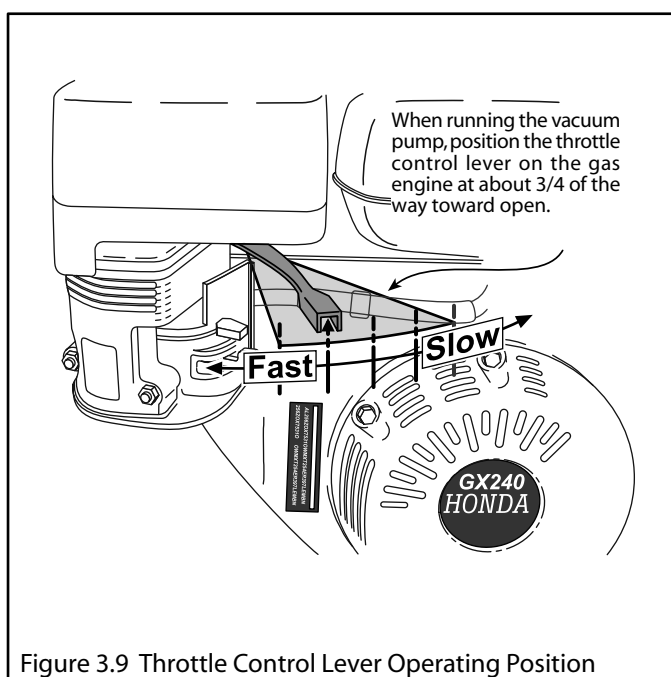

Figure 3.9 Throttle Control Lever Operating Position
- Move the throttle control lever on the gas engine to about  $\frac{3}{4}$  of the way toward the FAST position (Figure 3.9). This will provide the recommended 1250 to 1300 rpm at the vacuum pump.
3. Move the throttle control lever on the gas engine to about 3/4 of the way toward the FAST position (Figure 3.9, page 19). This will provide the recommended 1250 to 1300 rpm at the vacuum pump.